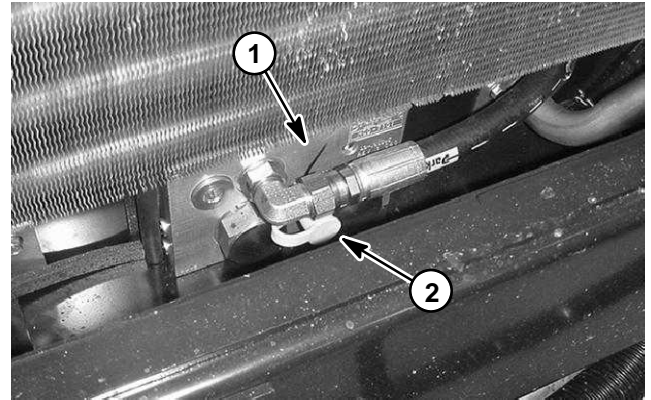

Figure 26
3. Connect a 1000 PSI (70 bar) gauge to test port on 4WD control manifold under radiator (Fig. 26).
6. Operate the machine in 4WD (not transport speed) with the cutting deck lowered. Drive down a slope in a forward direction, decrease pressure on the traction pedal and monitor the pressure gauge. Pressure should increase until the relief valve (RV) lifts. Record test results.